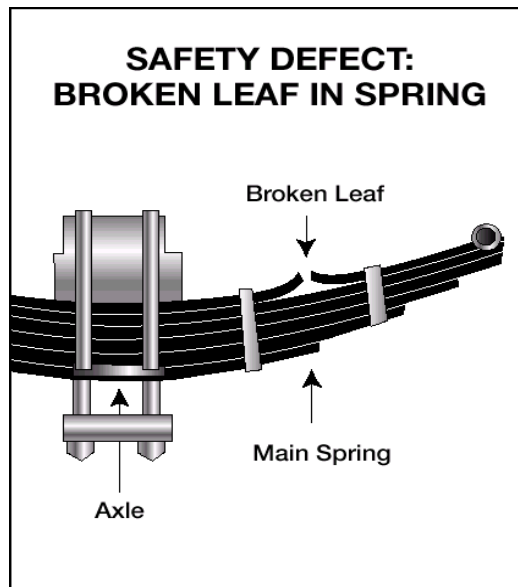

Figure 2.3
- Missing or broken leaves in any leaf spring. If more than $\frac{1}{4}$ of the leaves in a spring are broken, the vehicle may be taken “out of service”. Any defect could be dangerous. See Figure 2.3.